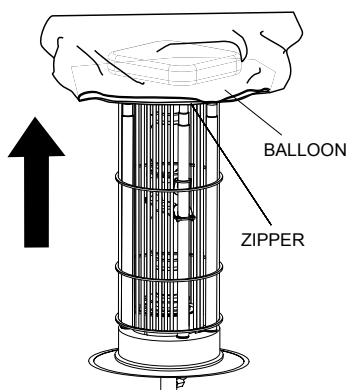

Figure 33. Exposing Balloon
1. Unzip the zipper at the bottom of the balloon and roll the balloon up to expose the lamp. See Figure 33.